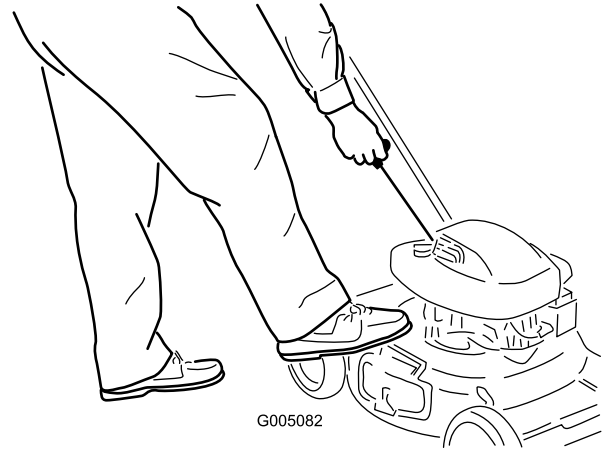

Figure 16
3. Pull the recoil starter (Figure 16).